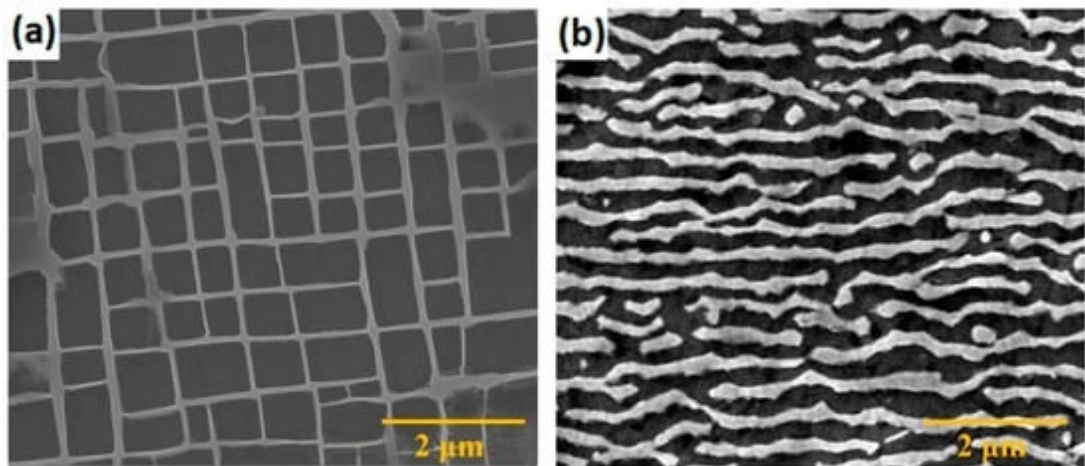

Figure 5. SEM – Cross section of a single-crystal turbine blade before and after 1'000 h of operation
- a) Your team leader gave you the following scanning electron micrograph (Figure 5), which shows the cross section of a single crystalline turbine blade of the alloy CMSX-4 after 1'000 h of service with a maximum temperature of 950°C in an aero-engine. The alloy has the composition (in wt.%) given in Table 2.